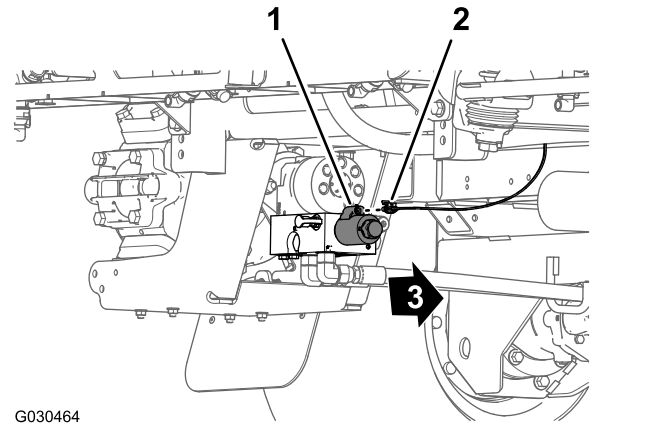

Figure 95
1. At the back of the machine—inboard of the sprayer pump, connect the 2-socket connector labeled **Spray Pump Solenoid** of the 86.6 cm (34 inches) wire harness branch into the 2-pin connector of the relay for the pump (Figure 95).